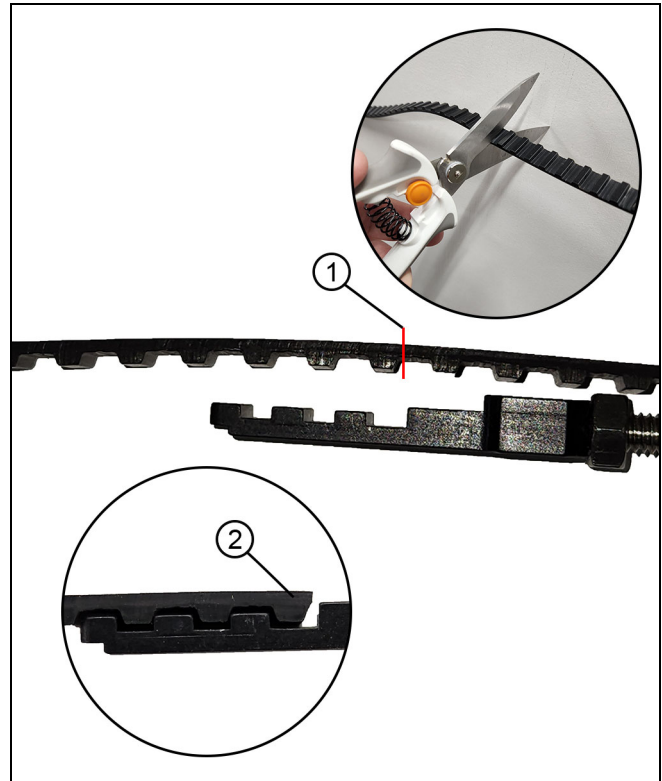

Figure 46
6. Pull the belt tight against the turnbuckle. Mark the belt to ensure there are 3 teeth of engagement on the turnbuckle. Cut the belt with a heavy shear. See Figure 46.